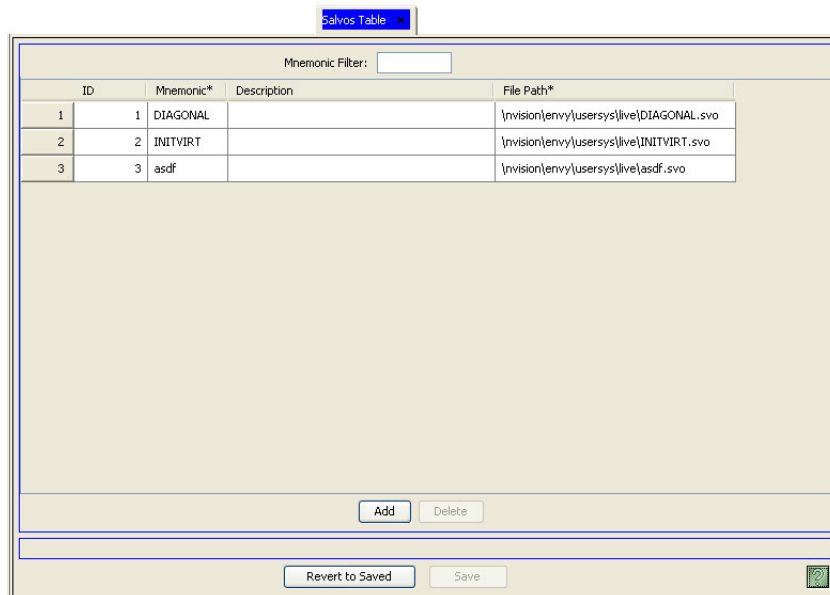

Figure 15-7. Salvos Table
- 2 From the Navigation area, select the ‘Views’ pane and then ‘Salvos’. The ‘Salvos’ table appears, as shown in Figure 15-7.